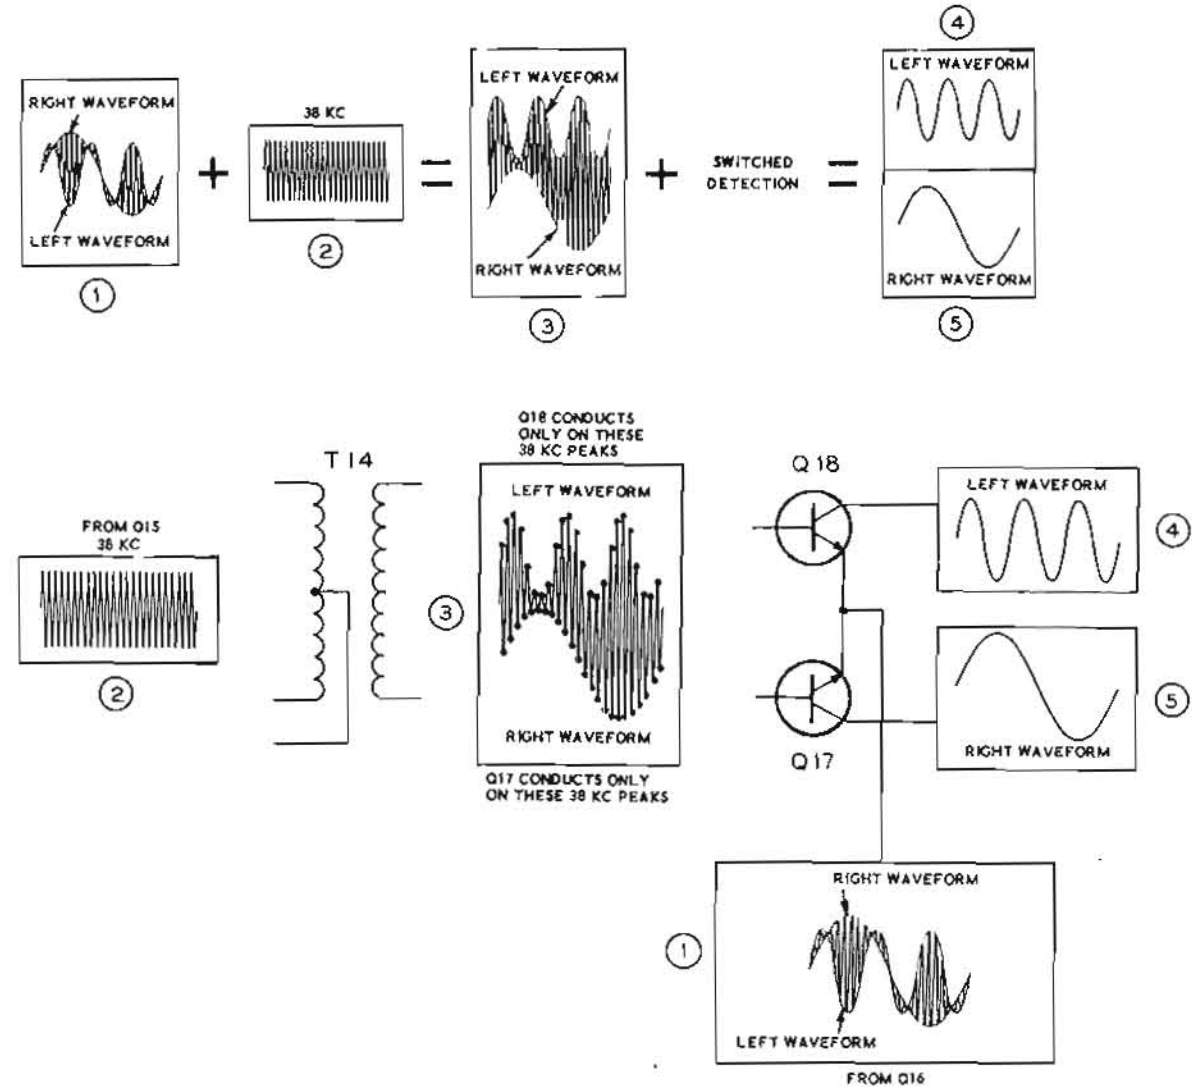

FIGURE 10
Figure 10 (fold-out from Page 15) shows the various waveforms that are present in the switching detector circuit. Waveform (1) is the suppressed carrier stereo signal that comes from transistor Q16. Waveform (2) is the 38 kc oscillator signal that is reinserted in the stereo signal at the same phase and frequency as the original 38 kc carrier. Remember, this 38 kc oscillation was locked at the correct frequency and phase by the 19 kc pilot signal from Q23.